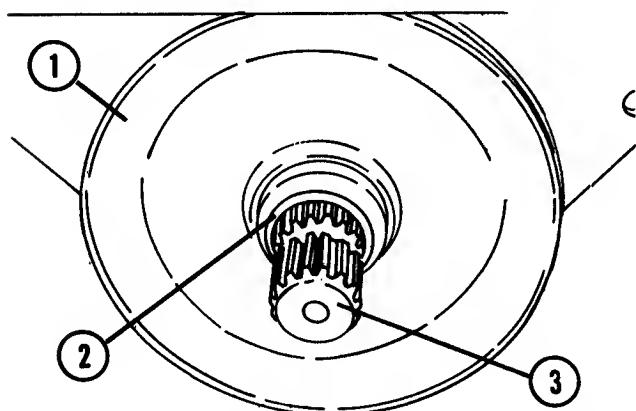

FIG. 2.31 — FRONT PULLEY REINSTALLER
7. Position shaft so retaining ring can be installed at front. Fig. 2.31.